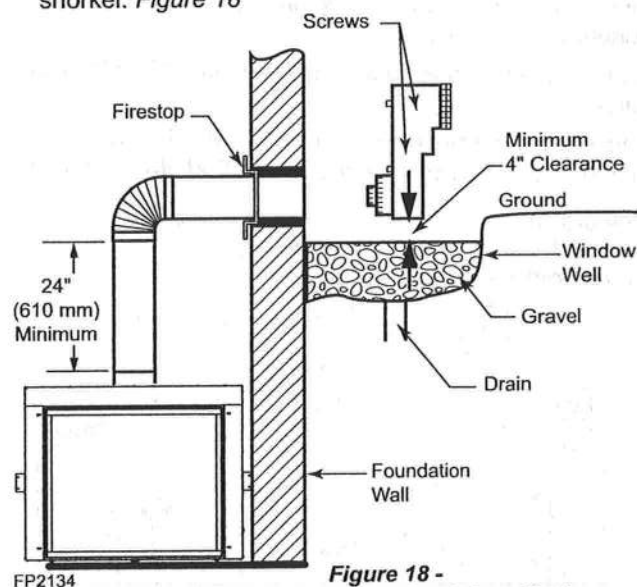

Figure 18 -
2. Remove soil to a depth of approximately 16" below base of snorkel. Install drain pipe. Install window well (not supplied). Refill hole with 12" of coarse gravel leaving a clearance of approximately 4" below snorkel. *Figure 18*
7. Level the soil so as to maintain a 4" clearance below snorkel. *Figure 18*